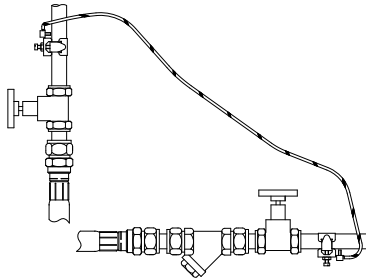

Fig. 10
- 5.15 **Adjacent pipes:** Adjacent suction and delivery pipes should be fitted with earthing clamps in accordance with current regulations (Fig. 10).